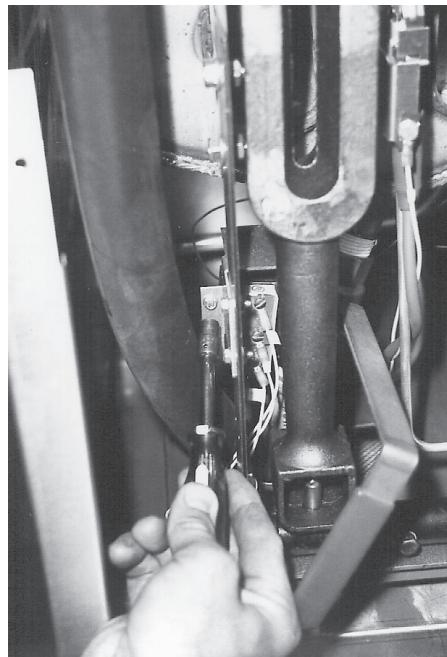

Fig. 34
11. With a  $\frac{1}{4}$ " socket, remove (2) holding screws securing the limit body to the mounting bracket. (Fig. 34)